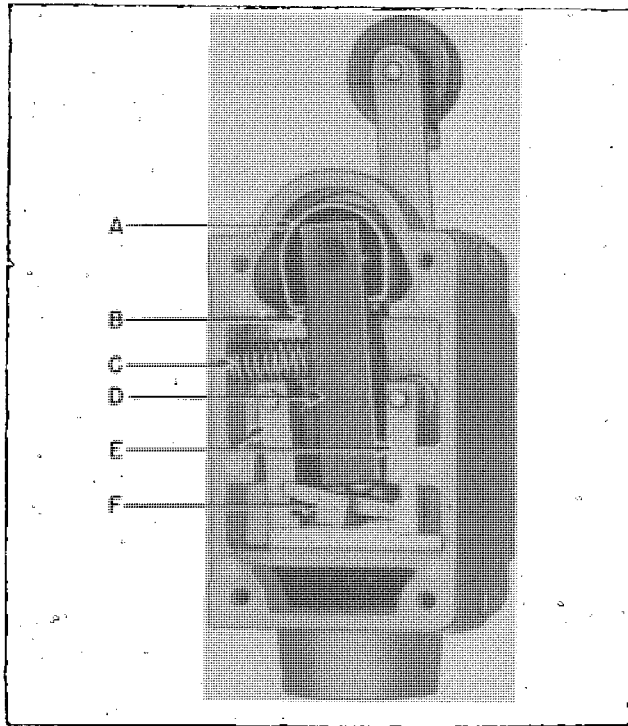

Fig. 5. Interior of CR9440-J1 limit switch
Before considering the reversal of the direction of operation of the CR9440-J1 forms of this line of limit switches, remove the rear cover or base plate from the switch. This will reveal the interior, as shown in Fig. 5.
Referring to Fig. 5, (A) is the overtravel spring, (B) the overtravel rack which engages with a pinion secured to the shaft, (C) is the return spring, (D) the swing bar, (E) the catches, and (F) is the latch. Note that the switch pictured in Fig. 5 is set up for counter-clockwise operation, viewed from the front. To reverse its direction of operation, insert the blade of a small screwdriver into the convolutions of spring (C) near the housing and lift up so that this end will clear the enclosure.
CAUTION: Since spring (C) Fig. 5, is under compression, care must be exercised in its removal to prevent its loss.
sure that the snap-action is positive. One drop of light machine oil should be applied to the contact guide bar at this time, as well as to the pins on which the catches (E), Fig. 5, pivot. The composition rollers on the operating levers require no lubrication, since they are molded of a compound containing graphite. In the case of the metal roller on the CR9440-J3 switch, an oil-impregnated bearing has been incorporated.